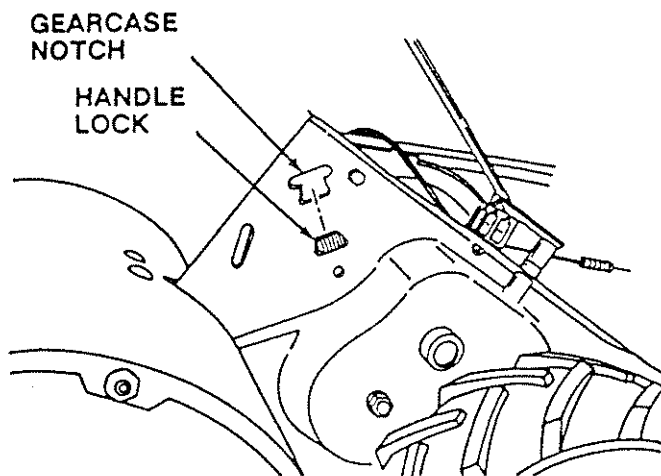

FIGURE 4
- a. Insert one Handle Lock (with teeth facing OUTWARD) in Gearcase Notch (Fig. 4). Handle Locks shipped in Bag of Parts.